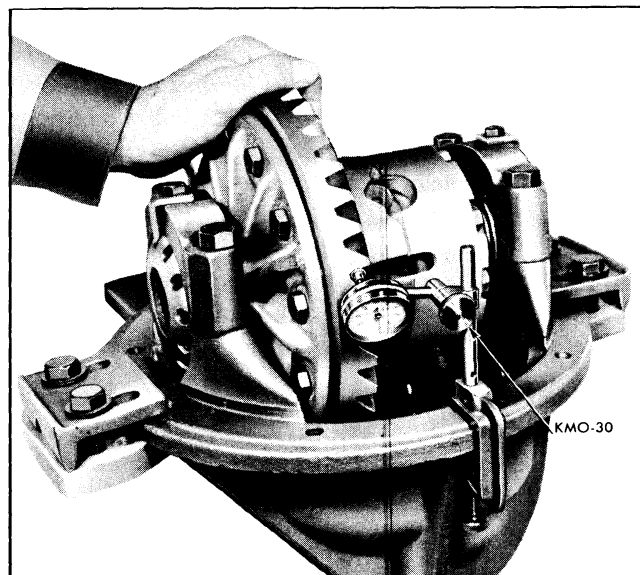

Fig. 4-71 Checking Backlash with KMO-30 Set
11. Using indicator KMO-30, check variance of ring gear backlash. Backlash should not exceed .005"-.009" (Fig. 4-71).